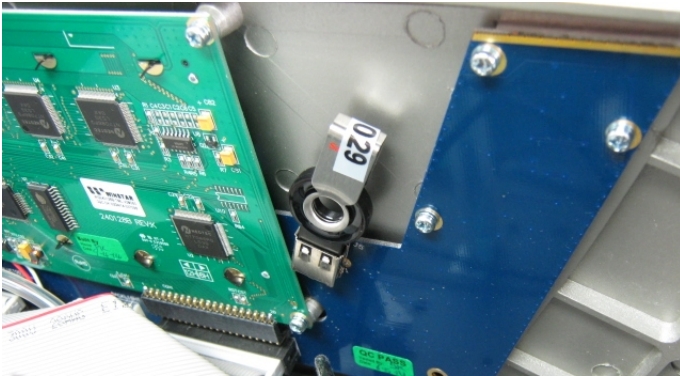

Figure 17 – Installation of USB Memory Stick
1. Open the lid and install the USB memory stick (refer to Figure 17).
6. Remove the USB memory stick and pack with instrument (refer to Figure 17).